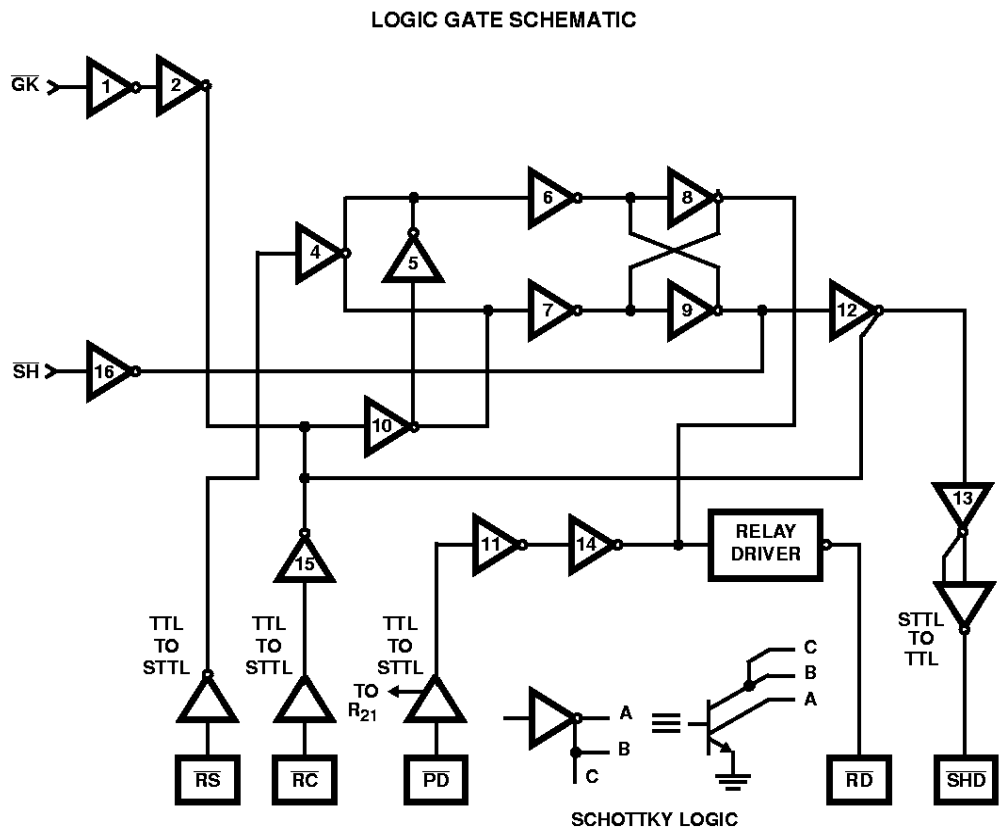

FIGURE 9. LOGIC NETWORK
Figure 9 is a schematic of the combination logic within the network. The external inputs RC (Relay Control) and $\overline{PD}$ (Power Denial) allow the switch controller to ring the line or deny power to the loop, respectively. The Ring Synchronization input (RS) facilitates switching of the ring relay near a ring current zero crossing in order to minimize inductive kick-back from the telephone ringer.